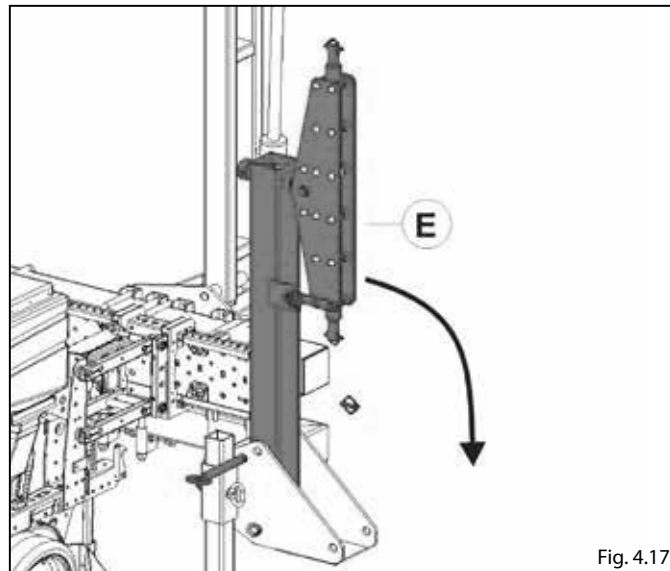

Fig. 4.17
- Put the towbar arm **E** to a horizontal position (Fig.4.17).